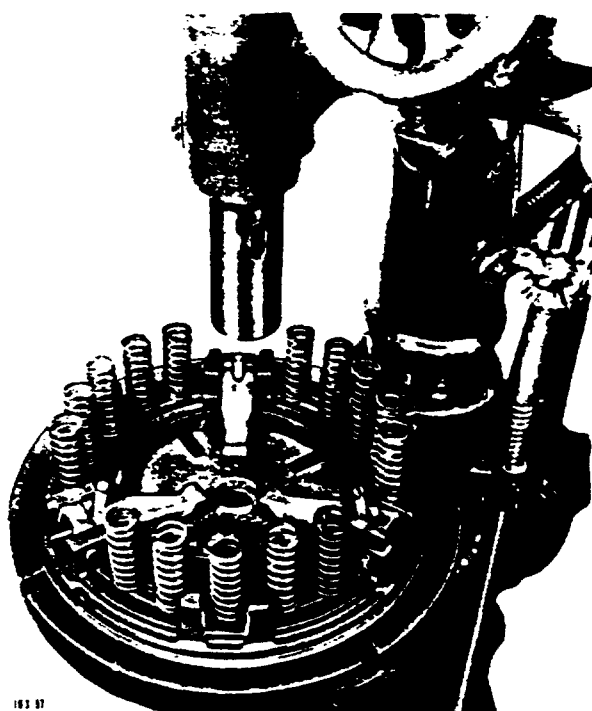

Figure 5-12. Assembling Clutch
2. Place pressure springs in position on pressure plate, as shown in Figure 5-12.